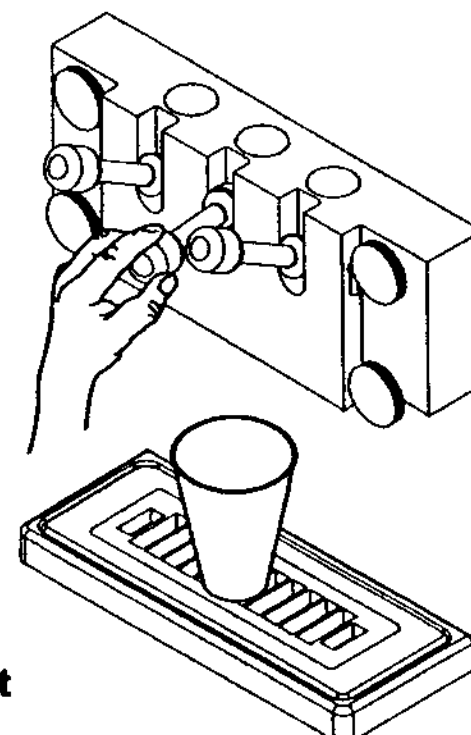

**Fig. 26**
6. Set each control switch (Fig. 26) to the center "OFF" position and drain the solution from the machine. Proceed directly to the "Operation" section of this manual.